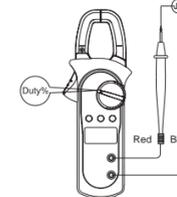

Figure 8
**F. Measuring Duty Cycle** (See Figure 8)